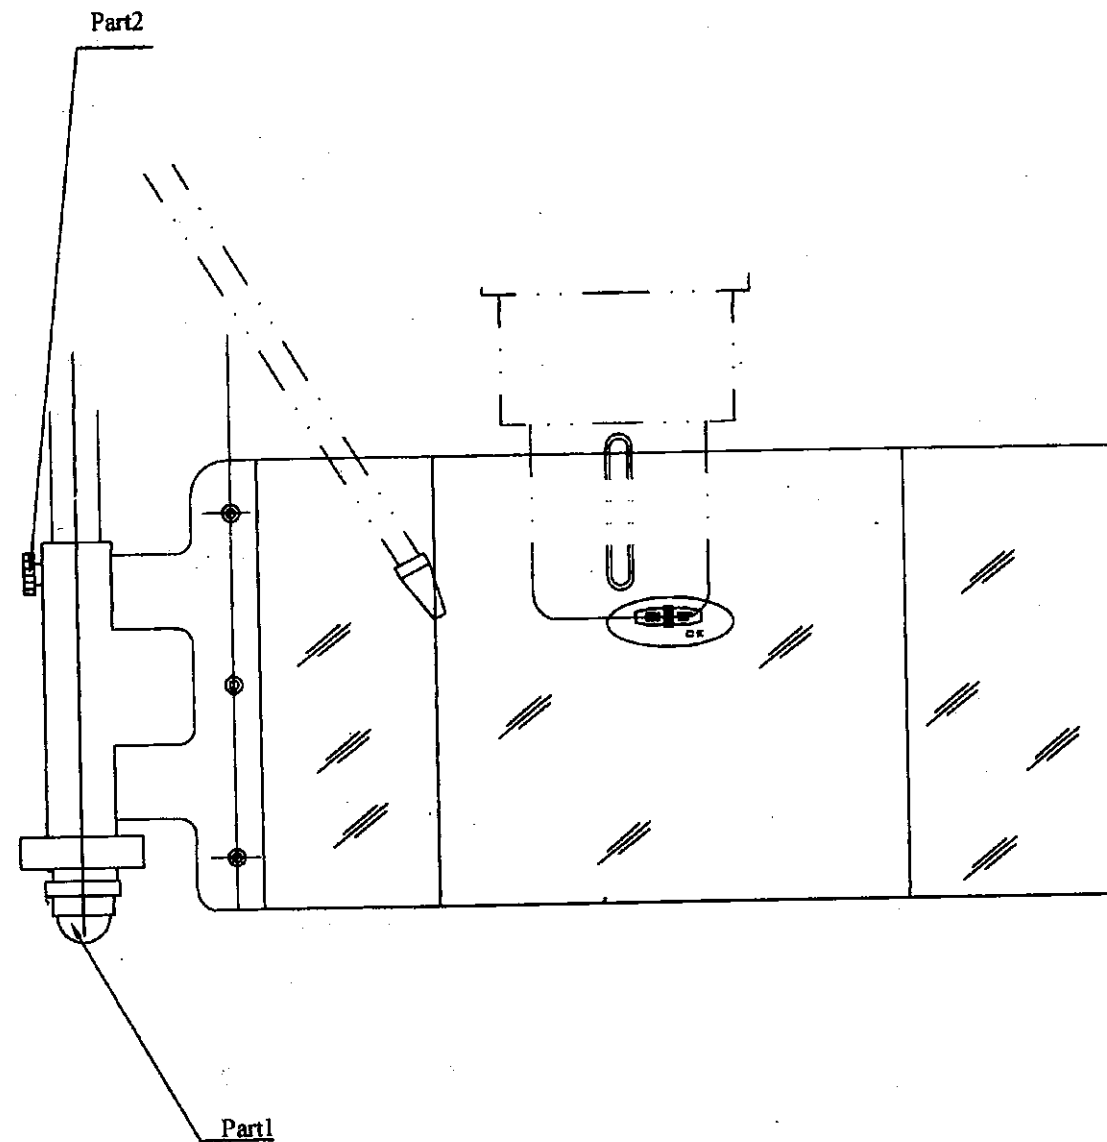

Fig 2.7 Spindle guard
2.3.13 The installation of spindle guard (Fig. 2.7): Unscrew part 1 under the electroplated pipe used to install cooling system, then put the guard on the spindle, and screw part 1.
2.4.16 The installation of spindle guard: Unscrew part 1 under the electroplated pipe used to install cooling system, then put the guard on the spindle, and screw 1. (See Fig. 2.7).